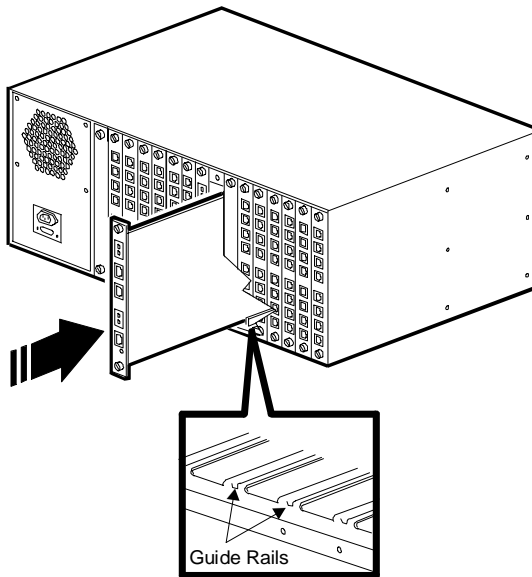

Figure 2-2. Inserting the PRI Adapter Card
2. Starting at slot 8, hold the card by the edges with the rear panel facing towards you and align the card with the metal guides. Refer to Figure 2-2.